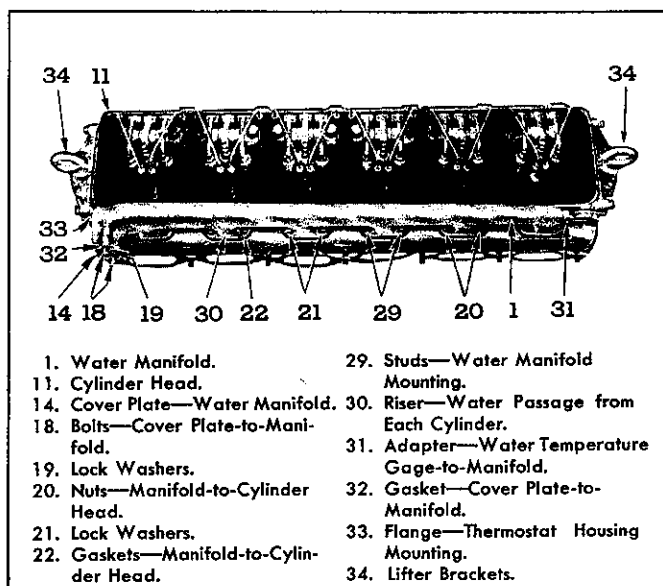
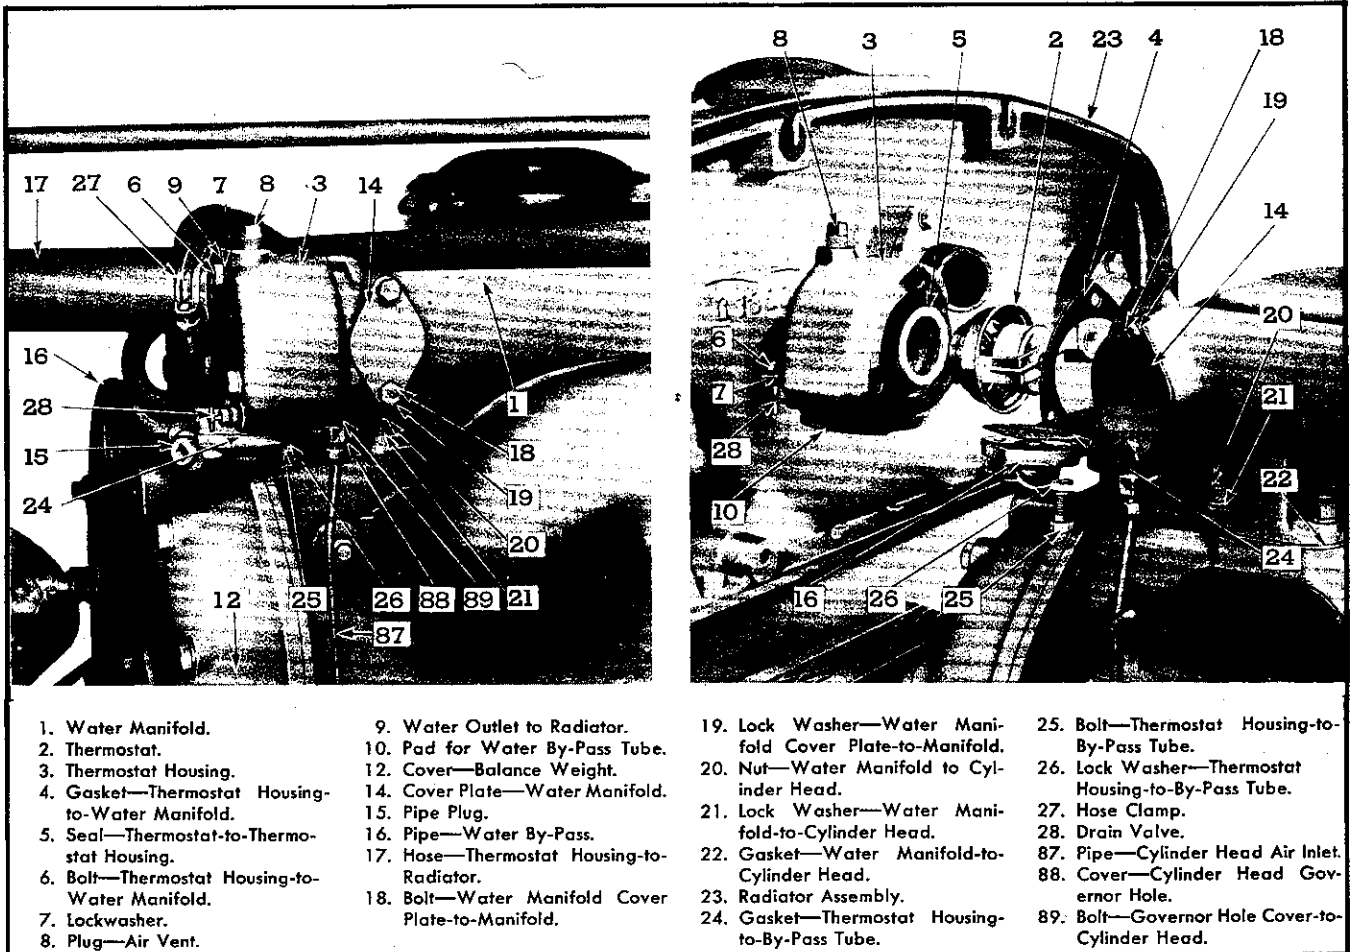

Fig. 9—Water Manifold Mounting.
Fig. 10—Thermostat Housing Mounting and Details.
**NOTE:** When draining or filling cooling system, remove vent plug (8) in thermostat housing, as shown in Fig. 10.
**NOTE:** When filling or draining cooling system, remove plug (8), shown in Fig. 10, to vent system.
**Description**—Cooling water leaving the cylinder head through openings directly over each exhaust port, enters the water manifold, which is attached to the head with two nuts and lockwashers at each end of the six water openings, as shown in Fig. 9. A separate gasket is used at each attaching flange between the manifold and cylinder head.
- NOTE:** When filling or draining cooling system, remove plug (8), shown in Fig. 10, to vent system.
- Remove two bolts holding water by-pass pipe (16) to thermostat housing (3). See Fig. 10.
- Remove three bolts (6) and thermostat housing (3). Remove thermostat (2).
- Clean seat in water manifold for thermostat cage (2) and set thermostat (bellows in) into manifold. (See Fig. 10).
- Remove thermostat seal (5) from thermostat housing. Clean seat and install new seal.
**NOTE:** When draining or filling cooling system, remove vent plug (8), shown in Fig. 10, to vent system.
4. Remove two bolts (18) and water manifold cover plate (14) from water manifold. Remove gasket
5. Remove two bolts (25) holding water by-pass pipe (16) to bottom side of thermostat housing (3).
7. Remove stud nuts (20) and washers (21) holding water manifold to cylinder head.
**Replace Water Manifold**—The water manifold may be replaced by reversing the sequence of operation for removal and referring to Figs. 9 and 10 for relative location of parts.
2. Place one gasket (22) on cylinder head at each water opening to manifold and set manifold in place on gaskets. Replace lockwashers (21) and nuts (20) and tighten nuts.
3. Using new gasket, replace water manifold cover plate (14).
5. Replace gasket if necessary, and connect water by-pass pipe (16) to lower side of thermostat housing (3).
**NOTE:** When draining cooling system for storage or for winter anti-freeze, be sure to open shut off valve (28) at thermostat housing and drain remaining water from system
A very effective and safe scale (and other foreign deposit) solvent is Sal Soda. It should be used in the proportions indicated and according to the directions printed on the solvent container. After the solvent has acted within the cooling system the prescribed length of time, the engine and radiator should be completely drained. Drains are provided on the lower tank of the radiator, at the water pump, and on the thermostat housing (air vent plug and drain valve, shown in Fig. 10). Following this, the system should be filled, slowly, to avoid rapid cooling and distortion, with clean soft water, and the engine operated for 15 minutes. Completely drain entire system again, then fill with clean soft water, as described above.